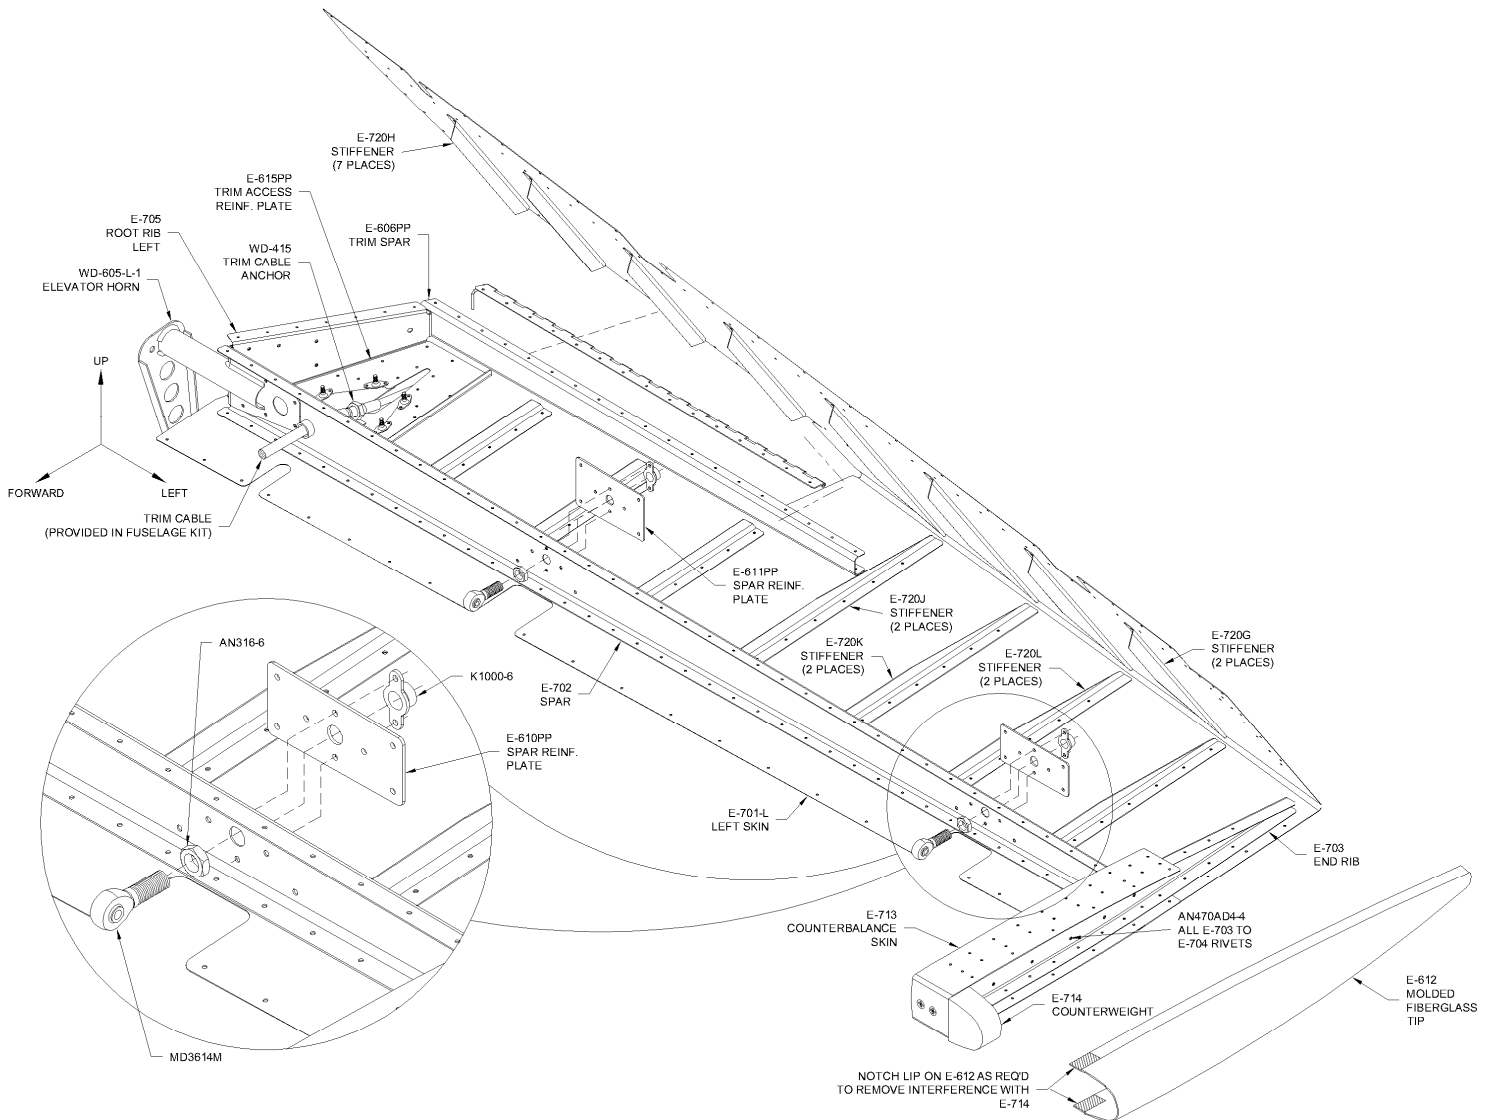
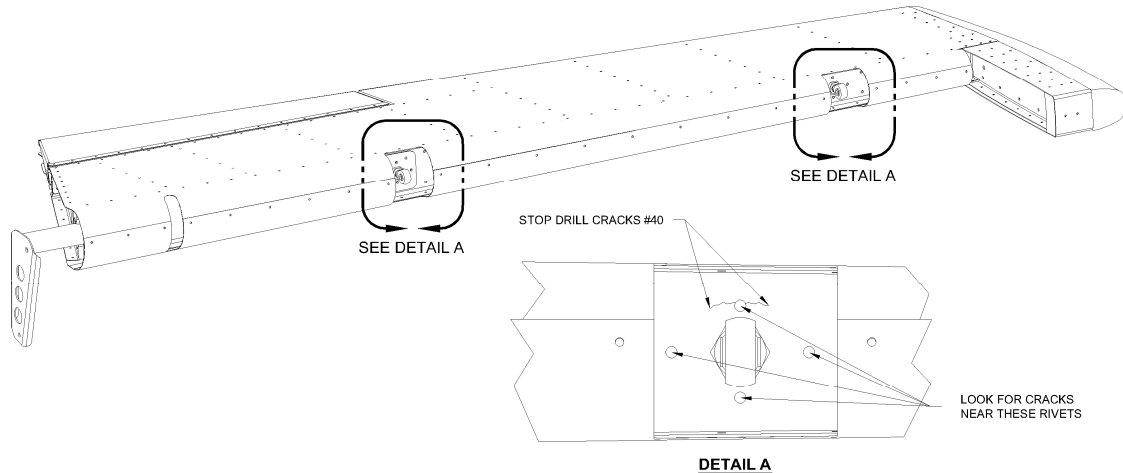

FIGURE 1: ELEVATOR ASSEMBLY
FIGURE 2: INSPECTION FOR CRACKING
Cracks have been found near the rivets attaching the nutplates that hold the elevator rod ends to the E-702 Spar and E-610PP or E-611PP Spar Reinforcement Plates. See Figure 1, Figure 2 and corresponding elevator assembly plans pages.
Step 1: Carefully inspect elevator hinge positions around the rivets noted in Figure 2.
Step 2: If cracking is found remove the elevator and stop drill #40 the cracks through the E-702 spar only. Do not continue to drill through the E-610PP or E-611PP Spar Reinf. Plates. This will remove only the material for the drill point from the reinforcement plates. See Figure 2.
Step 5: Remove the four rivets surrounding the rod end bearing hole (Figure 2). Use the Nutplate Holding Tool to prevent the nutplate from falling inside the elevator.